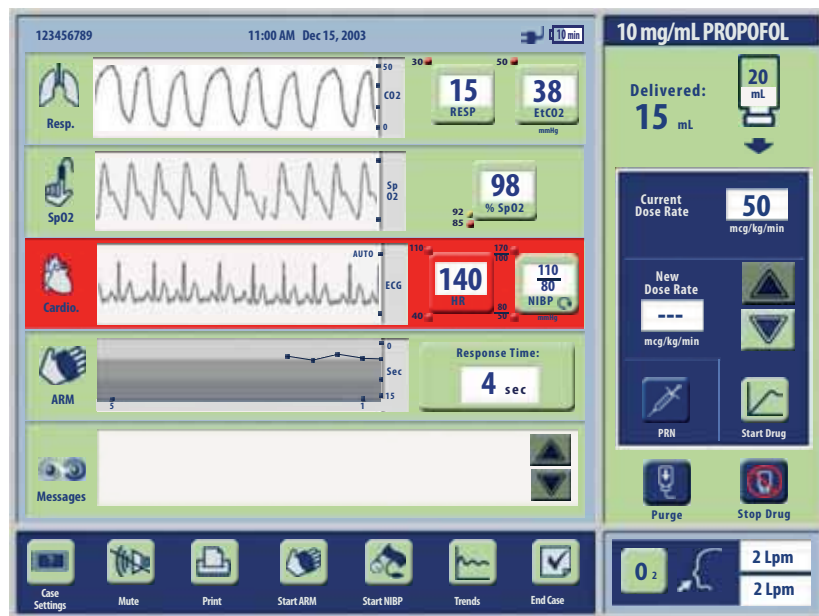

Figure 7-14 PRU Monitoring Screen During Red Alarm That Takes No Drug Action
- The general background field and the shortcut button for the patient physiologic parameter that is causing the alarm change to red. In Figure 7-14 on page 7-15 below, the example shows the changes for a heart rate alarm.